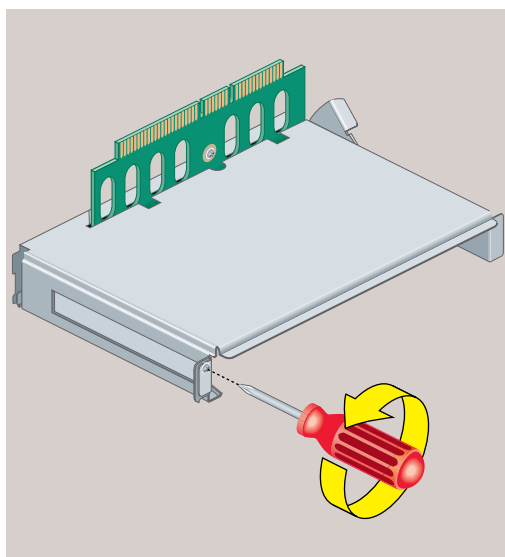

Figure 2-15 Removing the Screw and Filler Panel
4. Hold the PCI tray with one hand and remove the screw and the filler panel from the tray (Figure 2-15). Keep the panel and screw. If you later remove the PCI board and do not replace it, you must reinstall the filler panel.